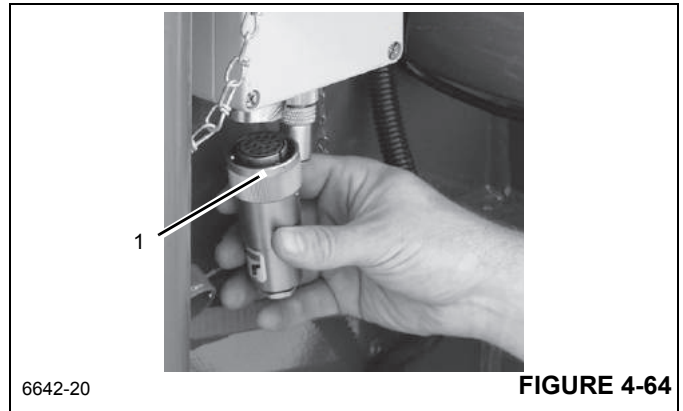

FIGURE 4-64
- b. Remove dummy plug (1) Figure 4-64 from junction box on boom nose.